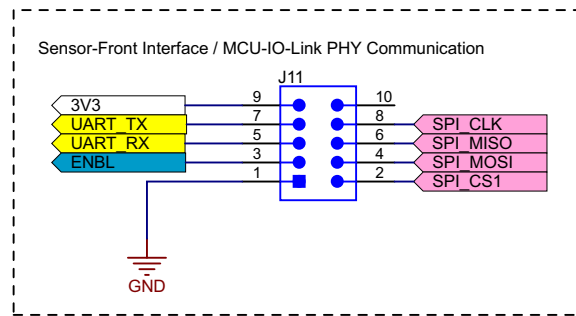

Figure 13. Sensor-Front Interface and MCU-IO-Link PHY Communication
2. J11 — The SPI signals from the MCU on the LaunchPad, which are present on J10 and J12, are also routed to J11 for easy access, as Figure 13 shows.